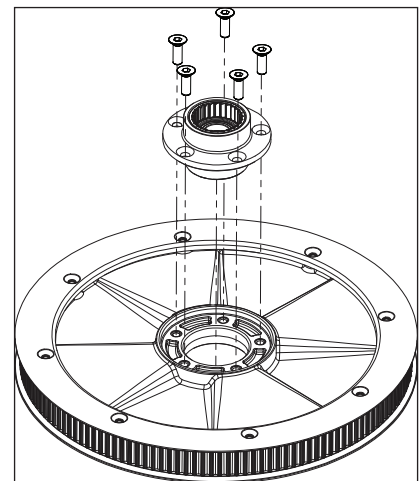

FIGURE 7.2
4. Place the pulley on a shop towel or other soft surface and remove the 5 screws from the hub assembly. (Figure 7.2)